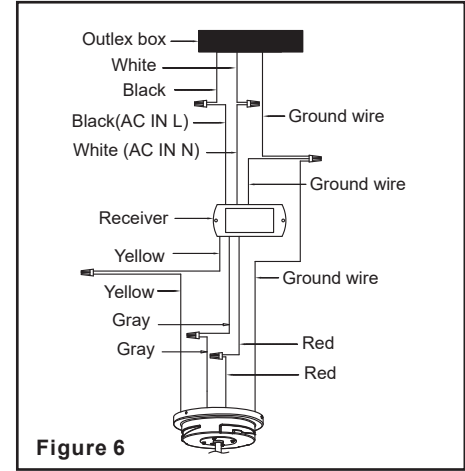

Figure 6
Step 1. Motor to receiver electrical connections: Connect the grey wire from the fan to the grey wire from the receiver. Connect the red wire from the fan to the red wire from the receiver. Connect the yellow wire from the fan to the yellow wire from the receiver. Secure the wire connections with the plastic wire connecting nuts provided (Figure 6).
Step 2. Receiver to house supply wires electrical connections: Connect the black (hot) wire from the ceiling to the black wire marked "AC in L" from the receiver. Connect the white (neutral) wire from the ceiling to the white wire marked "AC in N" from the receiver. Secure the wire connections with the plastic wire connecting nuts provided (Figure 6).
Step 3. If your outlet box has a ground wire (green or bare copper) connect it to the fan ground wires; otherwise connect the ceiling bracket assembly ground wire to the mounting bracket. Secure the wire connection with a plastic nut provided. After connecting the wires spread them apart so that the green and white wires are on one side of the outlet box and grey/red and yellow wires are on the other side. Carefully tuck the wire connections up into the outlet box (Figure 6).